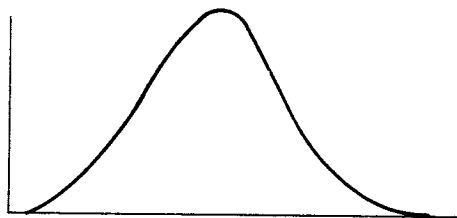

FIGURE 5-7. IDEAL WAVEFORM
(6) Tune coupler so that marker is in center of waveform displayed.
(7) Lock the coupler dial. Adjust the inductor loops for a symmetrical and maximum output waveform (see Figure 5-7).
(8) Temporarily replace the side covers with one screw in the center hole.
(9) Tune coupler for maximum response at 2 MHz.
(10) Loosen the set screws on the main dial and set it to 2 MHz. Tighten the set screws.
(11) Set the coupler FREQUENCY dial to 6 MHz.
(12) Set the sweep generator and marker to 6 MHz.
(13) Peak waveform for maximum and symmetrical pattern at this frequency with the four trimmers (C3, C5, C8 and C10).
(14) Remove covers and repeat steps (5) through (13) as needed until alignment is acceptable.
(15) Simultaneously turn the coupler FREQUENCY control and center frequency control of the sweep generator from high to low frequency end. Observe the symmetry of response. When alignment is complete the waveforms should be acceptable throughout the tuning range.
(16) Tighten all set screws. Replace all cover screws and recheck alignment.
(5) Set the sweep generator and marker to 4 MHz.
(9) Tune coupler for maximum response at 4 MHz.
(10) Loosen the set screws on the main dial and set it to 4 MHz. Tighten the set screws.
(11) Set the coupler FREQUENCY dial to 12 MHz.
(12) Set the sweep generator and marker to 12 MHz.